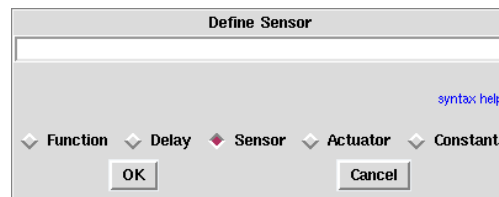

Figure 1.2: **Define Sensor**
- from the algorithm window, click on the + green button. It opens a dialog window, check **Sensor** (cf. figure 1.2). Type the sensor name and optionally a list of parameters for the sensor. For example type `input`, then